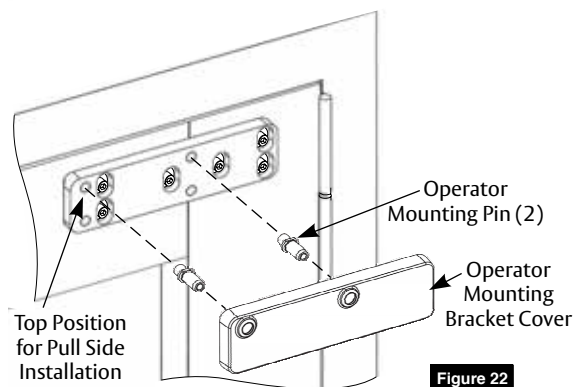

Figure 22
1. Install operator mounting pins into top holes of bracket using a large adjustable wrench. (Figure 22)
2. Install operator mounting bracket cover by placing it over pins. (Figure 22)